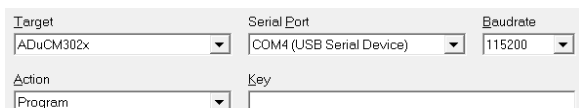

Figure 5. CrossCore Serial Flash Programmer Window
2. Ensure that the EV-COG-AD3029LZ is connected and select the following parameters (see Figure 5):